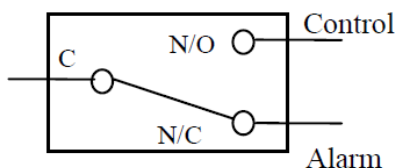

Figure 5
Before pressure is applied to the diaphragm, the switch contacts will be in the Normally Closed (NC) position. The snap switch has screw top terminals with cup washers. Wire alarm and control applications as shown in Figure 5.